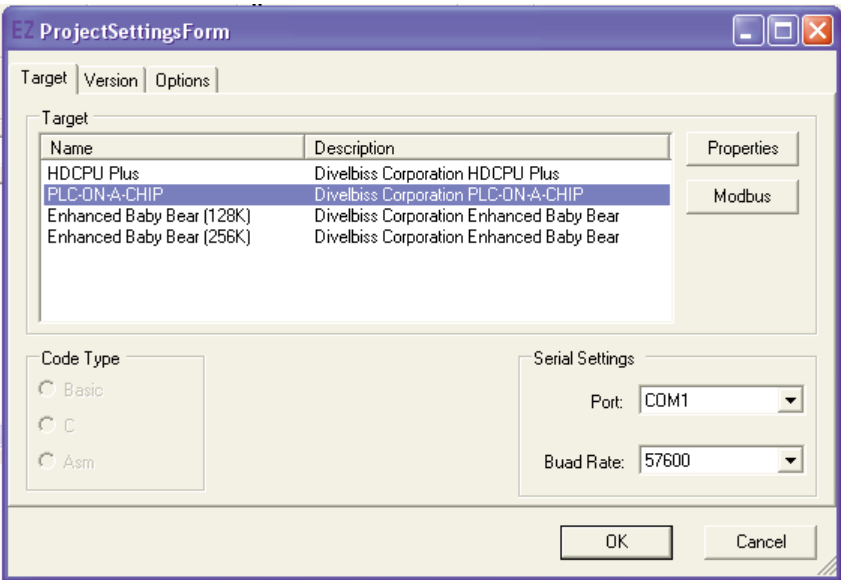
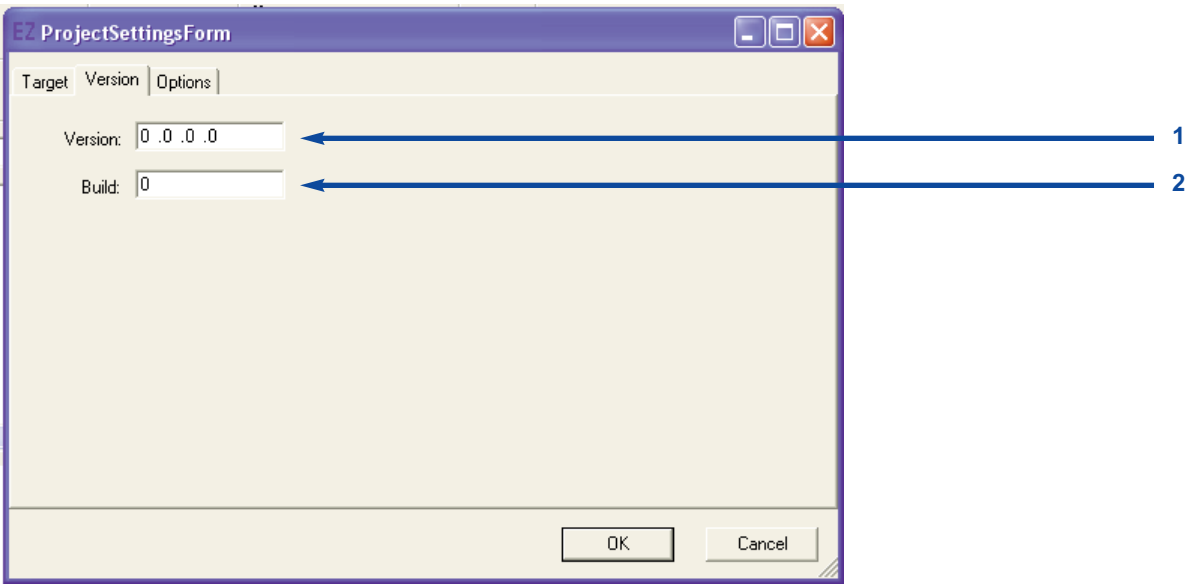
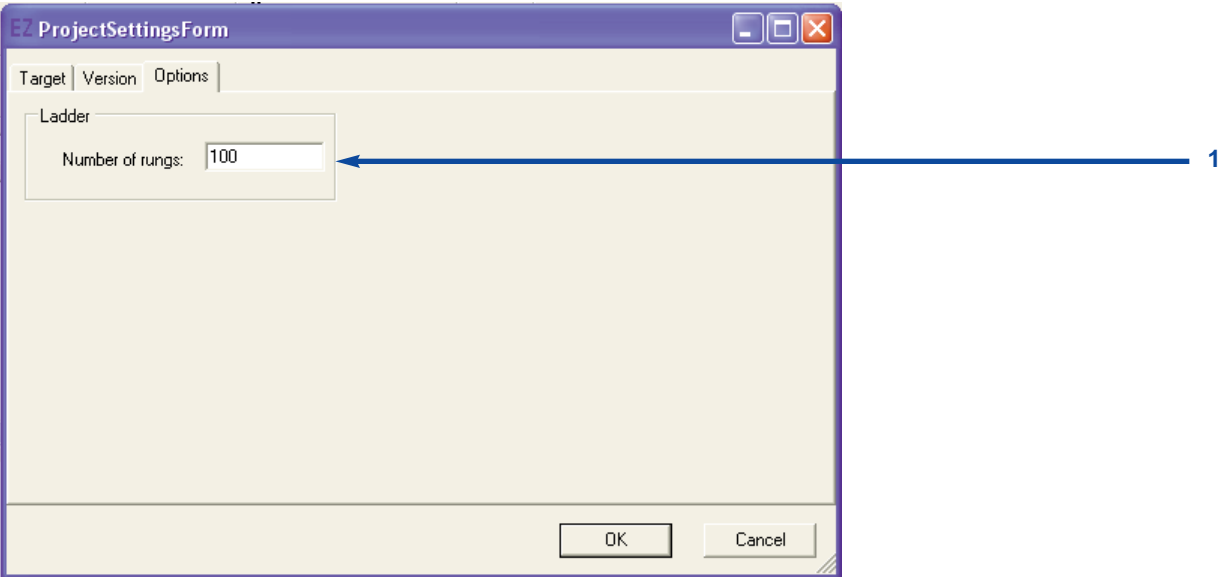

Figure 4.2
Figure 4.3
Figure 4.4
1. Project Setting Tabs: Select the appropriate tab to configure target settings. Figure 4.2 represents the *TARGET* tab, Figure 4.3 represents the *VERSION* tab, and Figure 4.4 represents the *OPTIONS* tab.
The Version settings dialog box will display the current build and version of the ladder diagram that is currently active in EZ LADDER. The build and version information is useful when determining if a program version is current. Figure 4.3 shows the Version settings dialog box. Version setting may be changed in this window, if required.
The Options settings dialog box will display the currently selected options and preferences. Some of these options are target specific while others are standard. Figure 4.4 shows the Options settings dialog box.